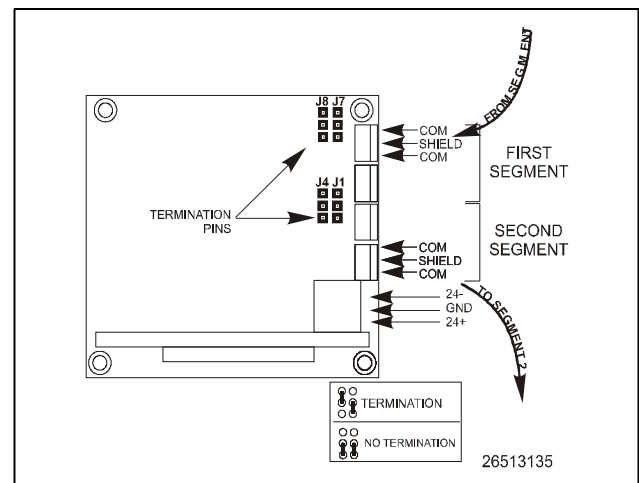

Figure 5-3 - Repeater Hookup
If the repeater is placed in between nodes in the system (see **Figure 5-3**), the wiring hook up is as follows:
1. Locate the Echelon terminals on the repeater (see **Figure 5-3**). Note that there are two pairs of terminals; top and bottom.
2. Connect the **incoming** three conductor wire to either one of the top jacks and the **outgoing** wire to one of the bottom jacks. Follow the diagram in **Figure 5-3**.
4. External repeaters require a UL Class 2, 24VAC, minimum 0.1 Amp transformer (P/N 640-0041, 110V and 640-0042, 220V). Connect the wiring from the transformer to the bottom right corner of the repeater circuit board (see **Figure 5-3**).